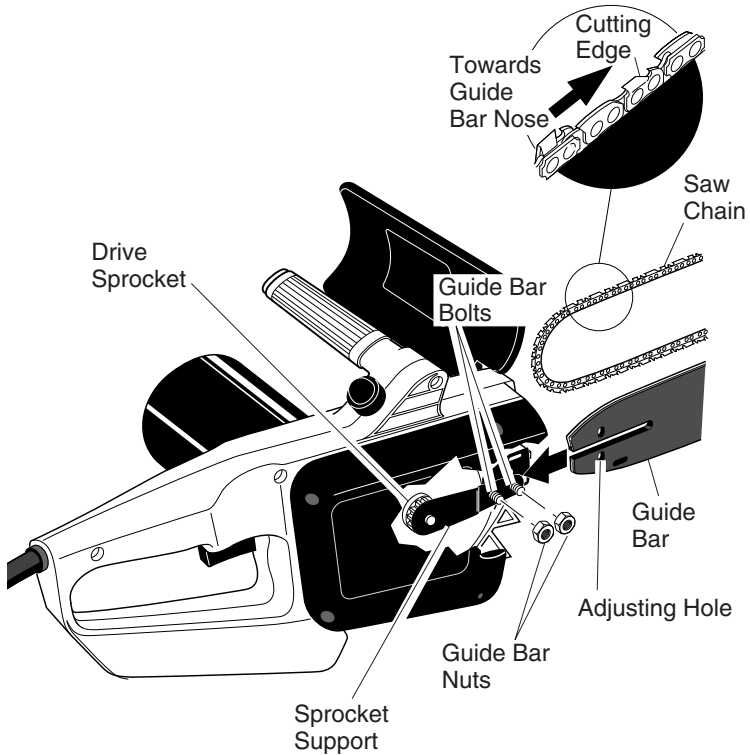

Figure 3 - Assembling Guide Bar, Chain, and Hand Guard
2. Remove guide bar nuts from guide bar bolts (see Figure 3, page 7).
6. Place chain around drive sprocket, then along top groove of guide bar and around guide bar nose. **Note:** Make sure cutting edges of chain are facing the right direction. Position chain so cutting edges on top of guide bar face guide bar nose (see Figure 3, page 7).
1. Before adjusting chain, make sure guide bar nuts are only finger tight (see Figure 3, page 7). Also make sure adjusting block is in oval adjusting hole on guide bar (see Figures 3 and 4, page 7).